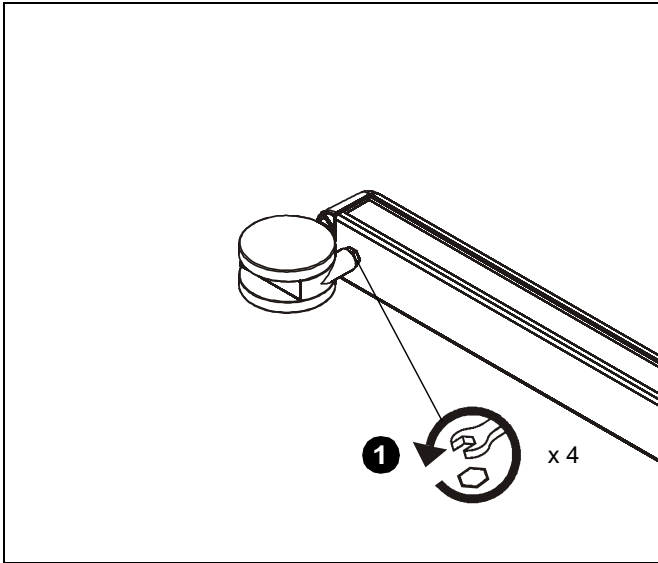

Figure 1
- Using a wrench, loosen the bolts and remove the four casters currently installed on the LVM cart. (See Figure 1)